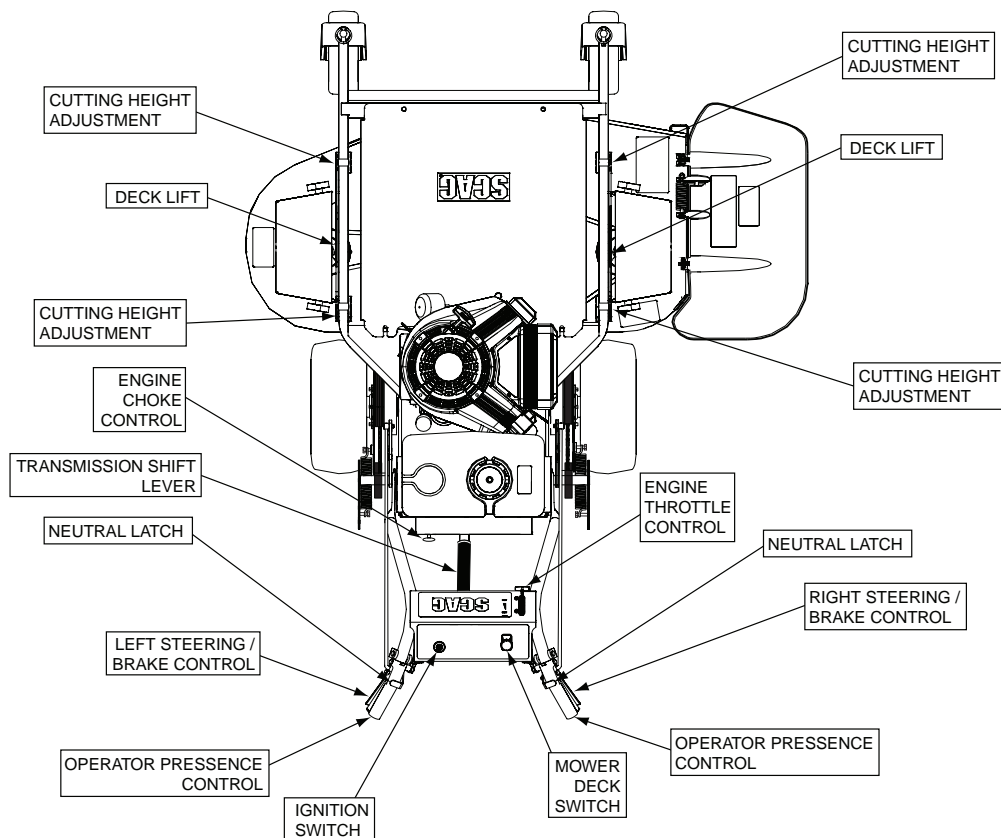

Figure 4-1. Controls and Instruments
2. **Mower Deck Switch (Figure 4-1).** Used to engage and disengage the mower drive system. Pulling up on the switch will engage the deck drive. Pushing down on the switch will disengage the deck drive.
3. **Engine Choke Control (Figure 4-1).** Used to start a cold engine.
4. **Engine Throttle Control (Figure 4-1).** Used to control the engine speed. Pushing the lever forward increases engine speed. Pulling the lever back decreases engine speed. Full back position is the IDLE position. Full forward is the cutting position.
1. **Ignition Switch (Figure 4-1).** The ignition switch is used to start the engine. Turn the key to the on position before pulling the recoil starter.
5. **Left Steering / Brake Control (Figure 4-1).** Used to control the mower's left wheel when traveling forward or reverse. Pull upward to apply brake.
6. **Right Steering / Brake Control (Figure 4-1).** Used to control the mower's right wheel when traveling forward or reverse. Pull upward to apply brake.
7. **Deck Lift (Figure 4-1).** Used to raise and lower the cutter deck.
8. **Cutting Height Adjustment (Figure 4-1).** Used to set the cutter deck at the desired cutting height.
9. **Transmission Shift Lever (Figure 4-1).** Used to select the forward speed or selecting reverse. The machine must be at a complete stop before shifting between gears or shifting between forward and reverse.
10. **Neutral Latch (Figure 4-1).** Used to secure the belt drive system in neutral. Apply neutral latches when parking the machine.
11. **Operator Presence Control (Figure 4-1)**